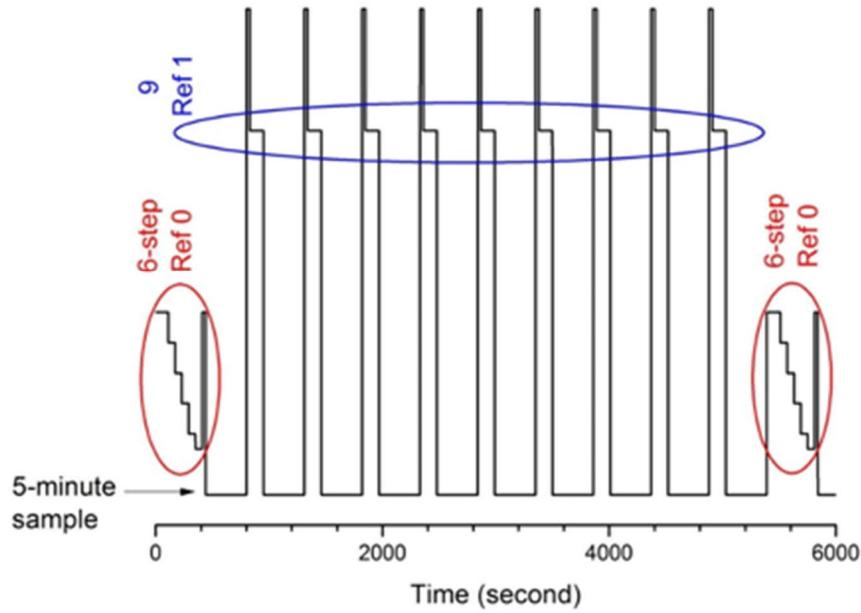

Figure 101: Two Types of WVSS Reference Cycles
6. Listed below is an example of a Reference Gas Cycle Configuration. (Figure 101)